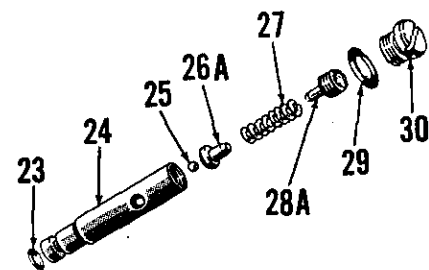

Fig. 430—Exploded view of late production detent regulating valve assembly for valves shown in Figs. 428 and 429.
Fig. 428—Exploded view of single spool remote control valve with spool detent (39) mechanism. Valve spool (7) is not shown removed from valve body; refer to Fig. 429. Refer to Fig. 430 for late production detent regulating valve assembly.
Fig. 429—Exploded view of two spool remote control valve assembly with spool detent (34 and 39) mechanism. Refer to Fig. 430 for view of late production detent regulating valve assembly.
To adjust the detent regulating valve, refer to Fig. 429 for double spool valve or to Fig. 428 for single spool valve and proceed as follows: Remove the regulating valve plug (30), then using an Allen wrench, turn the socket head adjusting screw (28) into valve body (24) to increase the detent release pressure or out to decrease release pressure. Reinstall plug with new sealing "O" ring (29) after completing the required adjustment. Late style detent regulating valve assembly is shown in Fig. 430.
Unscrew the regulating valve plug (30) and remove the plug and "O" ring (29). Insert an Allen wrench in the socket head plug (28) and withdraw the valve assembly from bore in valve body by prying and pulling on the wrench. If valve body (24) is stuck tightly, unscrew the plug, extract the spring (27) and pull body (24) from bore with hooked wire. Be careful not to lose the valve ball retainer (26) or valve ball (25). Note: Early production regulating valve is shown in Figs. 428 and 429, refer to Fig. 430 for exploded view of later production regulating valve. The regulating valve spring fits inside the early valve ball retainer and outside of the later valve ball retainer and spring guide (26A). The later adjusting plug